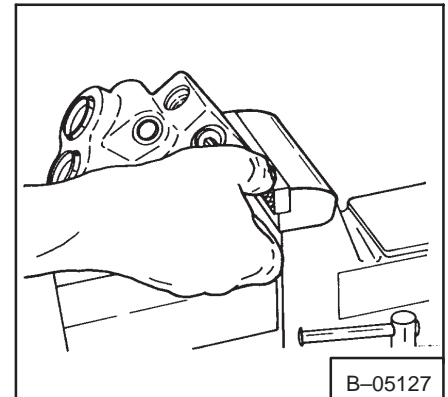

Fig. 3-38 Removing The Plug
6. Remove the plug from the valve housing (Fig. 3-38).